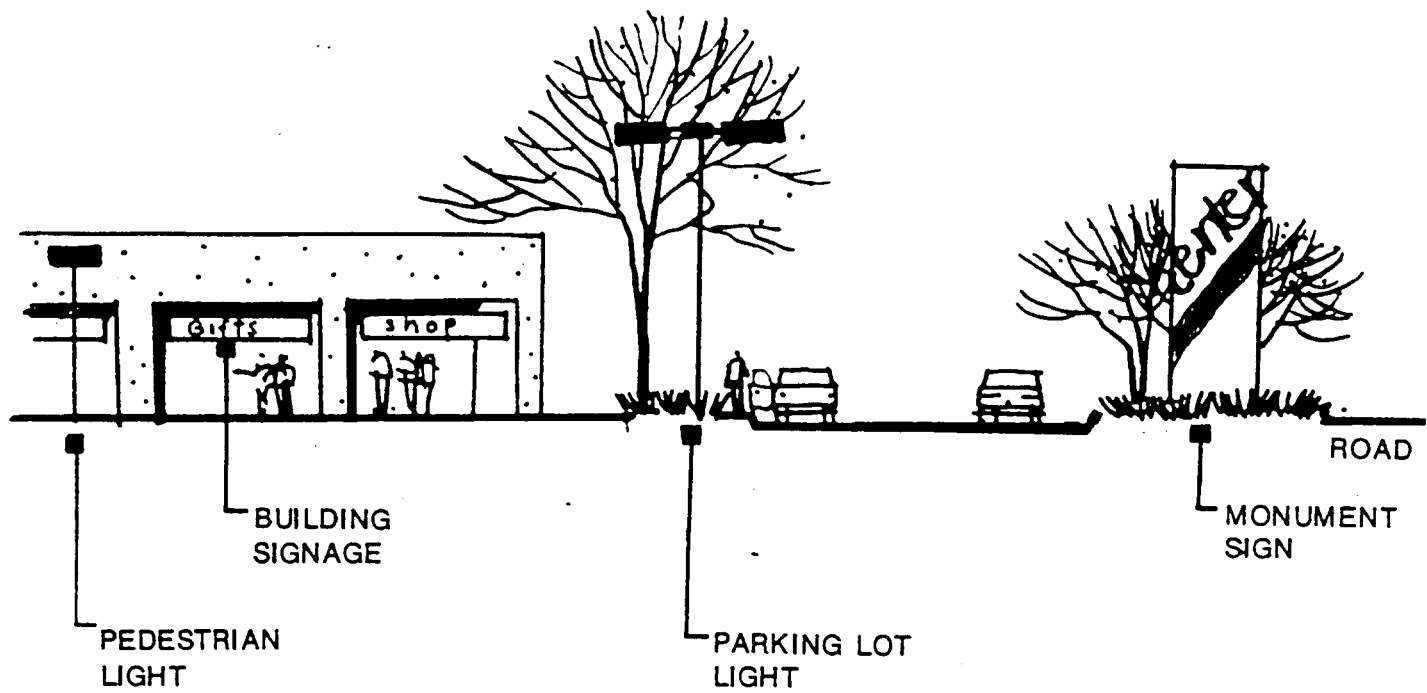

FIGURE 16
- Single free standing signs are recommended instead of a series of signs to identify the center. (See Figure 16.)